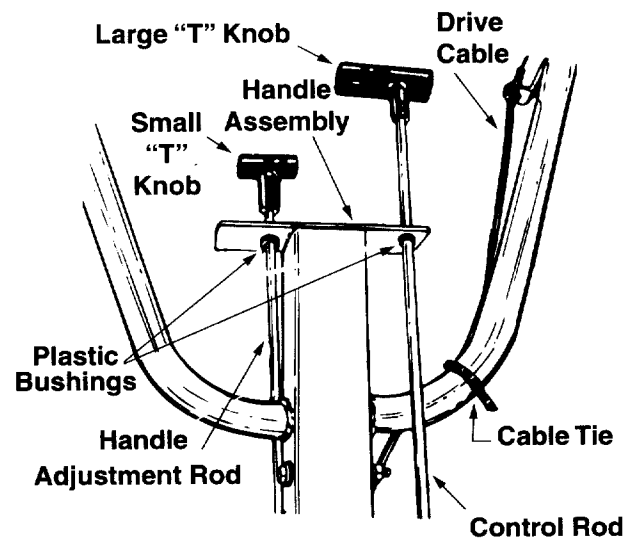

Figure 11
Secure drive cable to left handle using cable tie. Refer to Figure 11. Cut off excess end of cable tie.
1. Insert the end of control rod with the 90 degree bend **down** through the plastic bushing on the left side of handle assembly. See Figure 11.
3. Install large "T" Knob on upper end of the control rod. See Figure 11.
1. Insert the end of handle adjustment rod **down** through the plastic bushing on the right side of handle assembly. See Figure 11.
3. Install small "T" Knob on upper end of the Handle Adjustment Rod. See Figure 11.